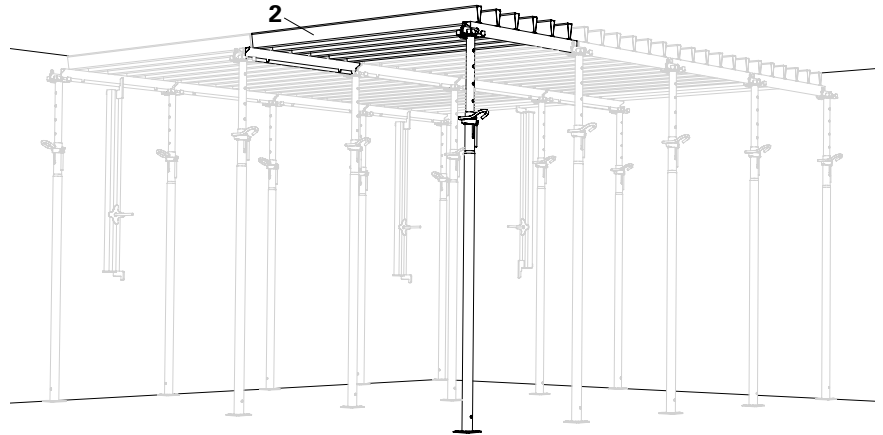

Fig. A4.14
- The forming process is carried out with the Standard Element GFP (2) up to the compensation. (Fig. A4.14)
- Position the final props (1) on the Standard Element GFP (white) in a recessed manner in front of the width compensation (see Compensations A5).